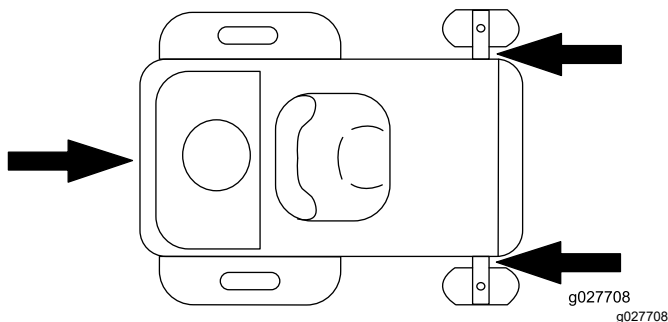

Figure 30
- Securely fasten the machine to the trailer or truck with straps, chains, cable, or ropes. Only use the designated tie-down locations on the mower as shown in Figure 30. Use these locations even when transporting the mower with an attached accessory. Using non-designated locations may cause damage to the mower and/or attachment.